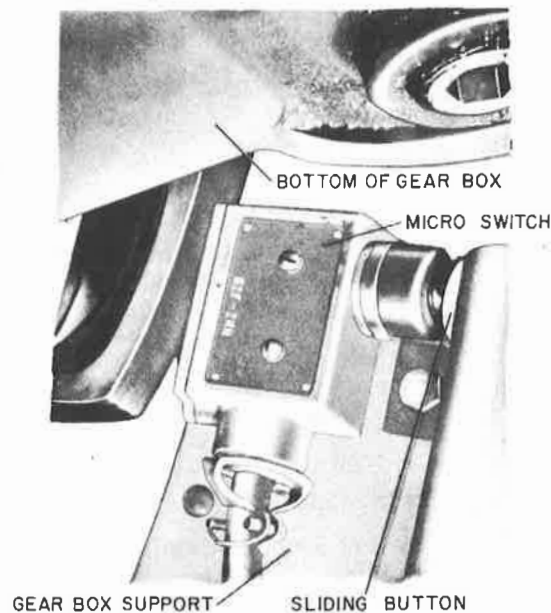

Figure 100. Moving Deck Jam Microswitch Adjustment
49. MOVING DECK JAM MICROSWITCH ADJUSTMENT. (FIGURE 100)